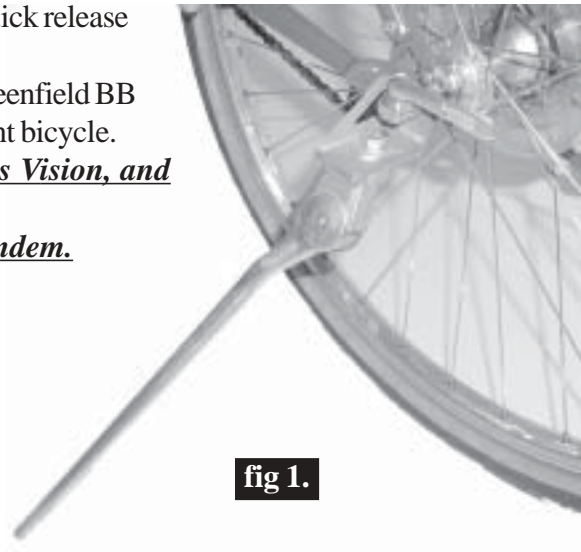

fig 1.
2. Study the illustrations to familiarize yourself with the kickstand. Fig 1. shows the kickstand side view, Fig. 2. shows the kickstand mount close-up. Note how the mounting bracket on the kickstand sits ON TOP of the brace welded to the bike frame.
1) Check your parts! (Fig. 1). You should have a mirror attached to a "stalk" mount, a 6mm x 35mm bolt, a square mounting block and a strap clamp **WITH** nut.